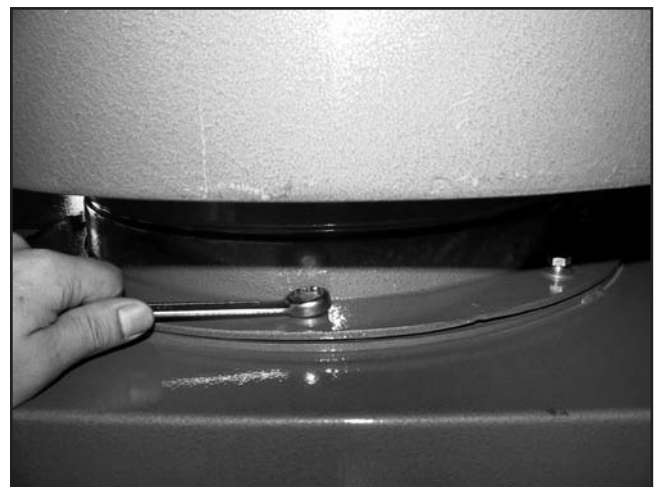

Figure 4. Installing exhaust fan onto spray booth.
4. Align the gasket and exhaust fan mounting holes, and fasten with eight $\frac{5}{16}$ "-18 x 1" hex bolts and flat washers, as shown in **Figure 4**.